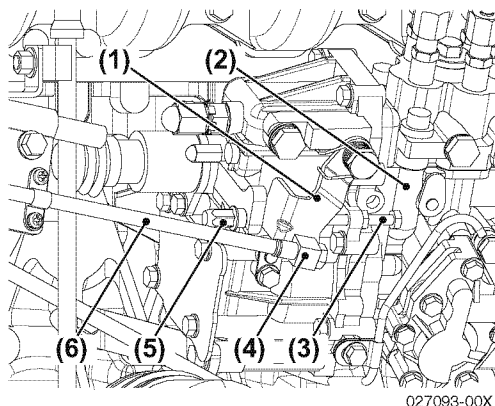
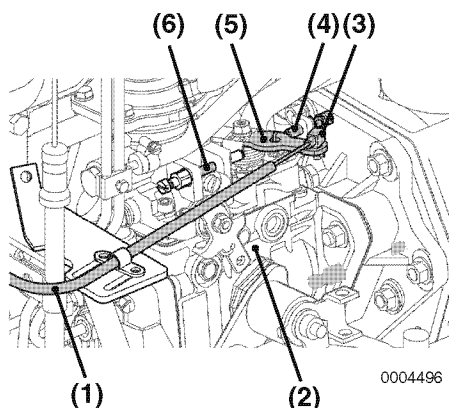

Figure 5
Figure 6
1. To adjust, loosen the adjustment screw (Figure 5, (4)) or cable fitting (Figure 6, (3)) for the remote control cable on the engine side and adjust.
2. Adjust the high-speed stop (Figure 5, (5)) or (Figure 6, (6)) position first and then adjust the low-speed stop (Figure 5, (3)) or (Figure 6, (4)), with the adjustment screw on the remote control lever (Figure 5, (1)) or (Figure 6, (5)).